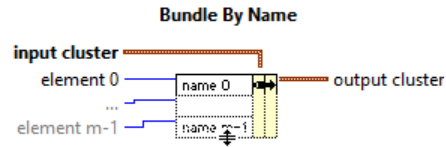

Figure 16: Bundle By Name VI
- II. For the first input of your sub-vi, **Sampling info for subcarrier**, use the output cluster of **Bundle By Name** icon. This icon is already located in the transmitter template and shown in Figure 16.